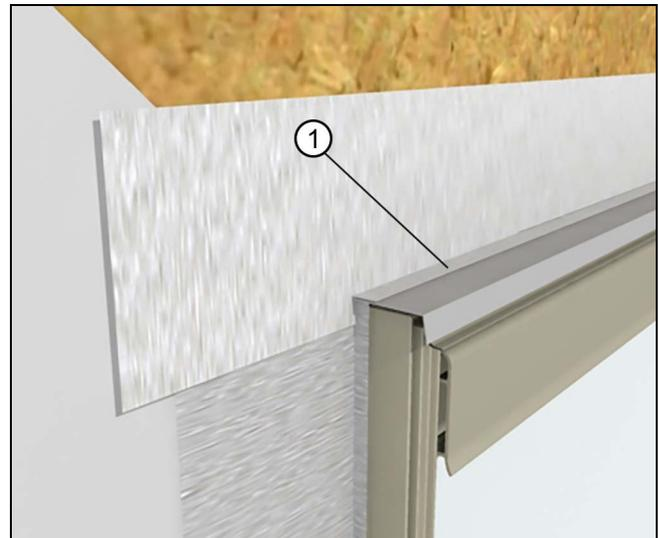

Figure 23
3. Install a layer of flashing over the vertical leg of the rigid head flash and lapped onto the horizontal leg. The flashing should extend past the jamb flashing installed earlier. See Figure 23.